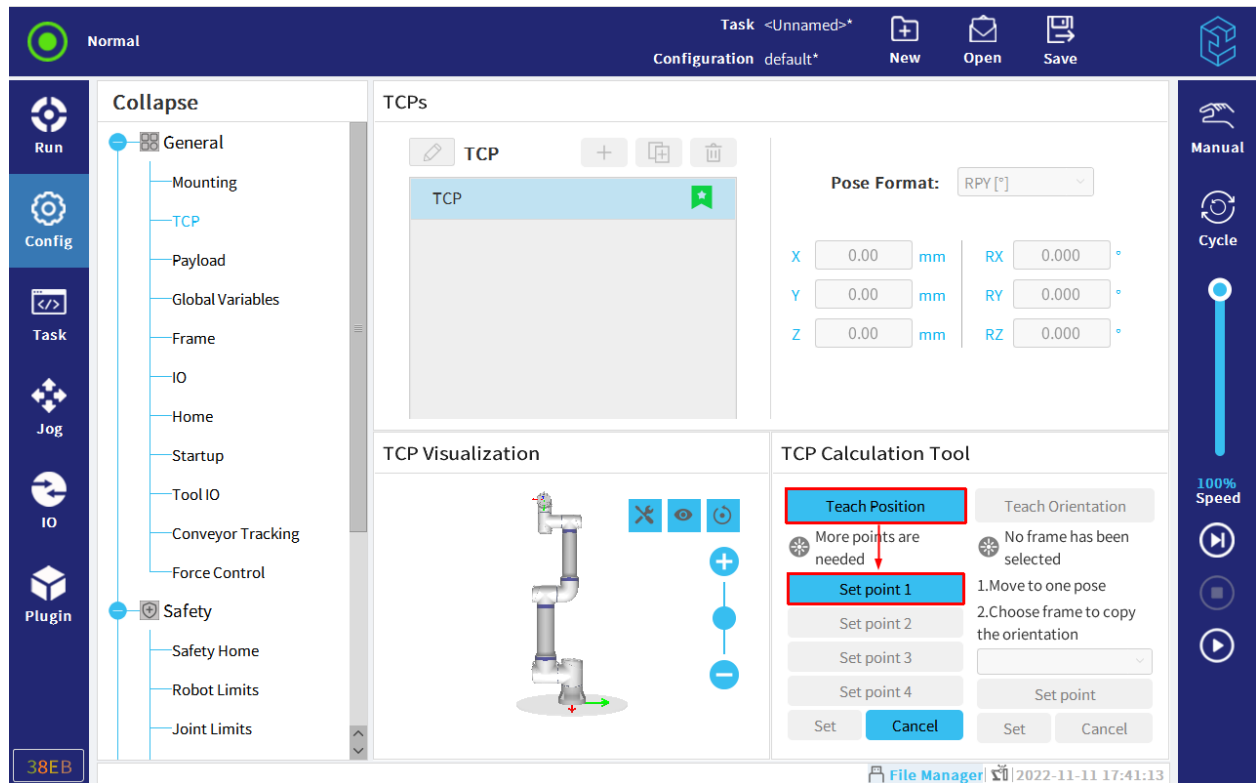

Figure 11-3 Set point 1
1. Click "Teach Position > Set point 1", as shown in Figure 11-3.